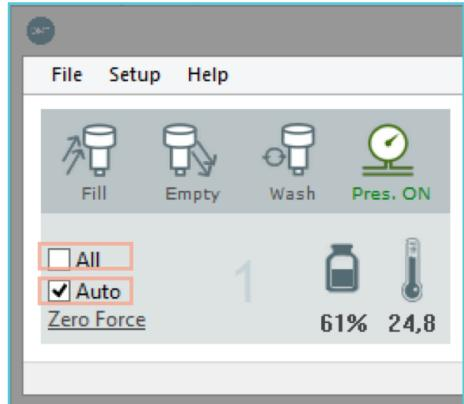

Figure 27
Step 4: Make sure the Auto has a tick mark and the All Do Not have a tick mark (figure 27).